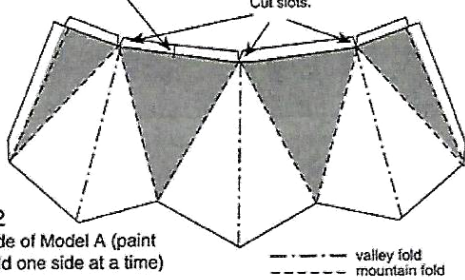

FIG 2
7. Cut the three slots and fold along the lines, mountain folds and valley folds according to the lines in Figure 2.